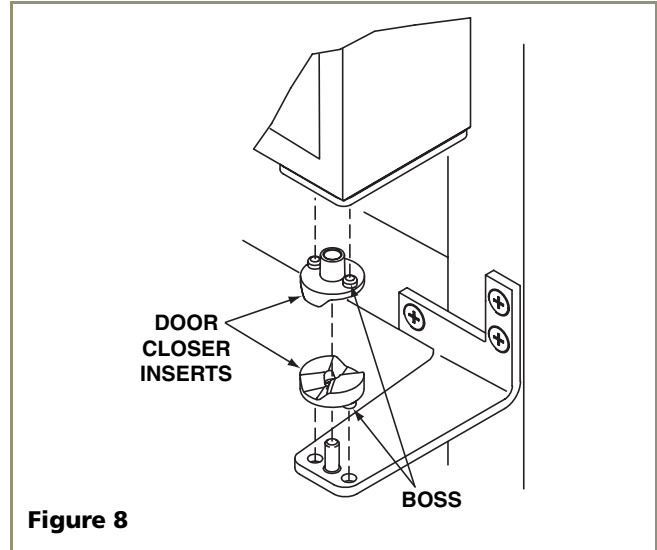

Figure 8
2. Remove pre-greased closure assembly (male closer P/N 31672 and female closer P/N 31673) from poly bag (P/N 37015) and slide over bottom pivot post, making sure that bosses align with holes in hinge and that assembly is fully seated (**Figure 8**).
3. Position door over door closer. Be sure the door hinge plate holes align with the bosses on the closer (**Figure 8**). Failure to do this will result in the door not aligning properly.